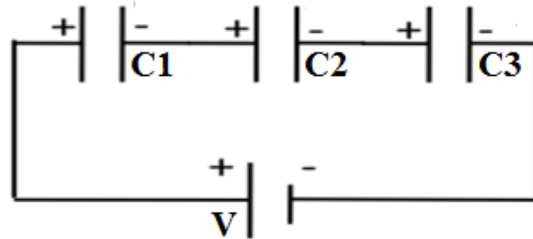

Figure 5.1: SeriesCombination Capacitor Circuit
- Write a BASIC program which compute equivalent Capacitance (C_{eq}) of Series combination circuit shown in Figure 5.1.